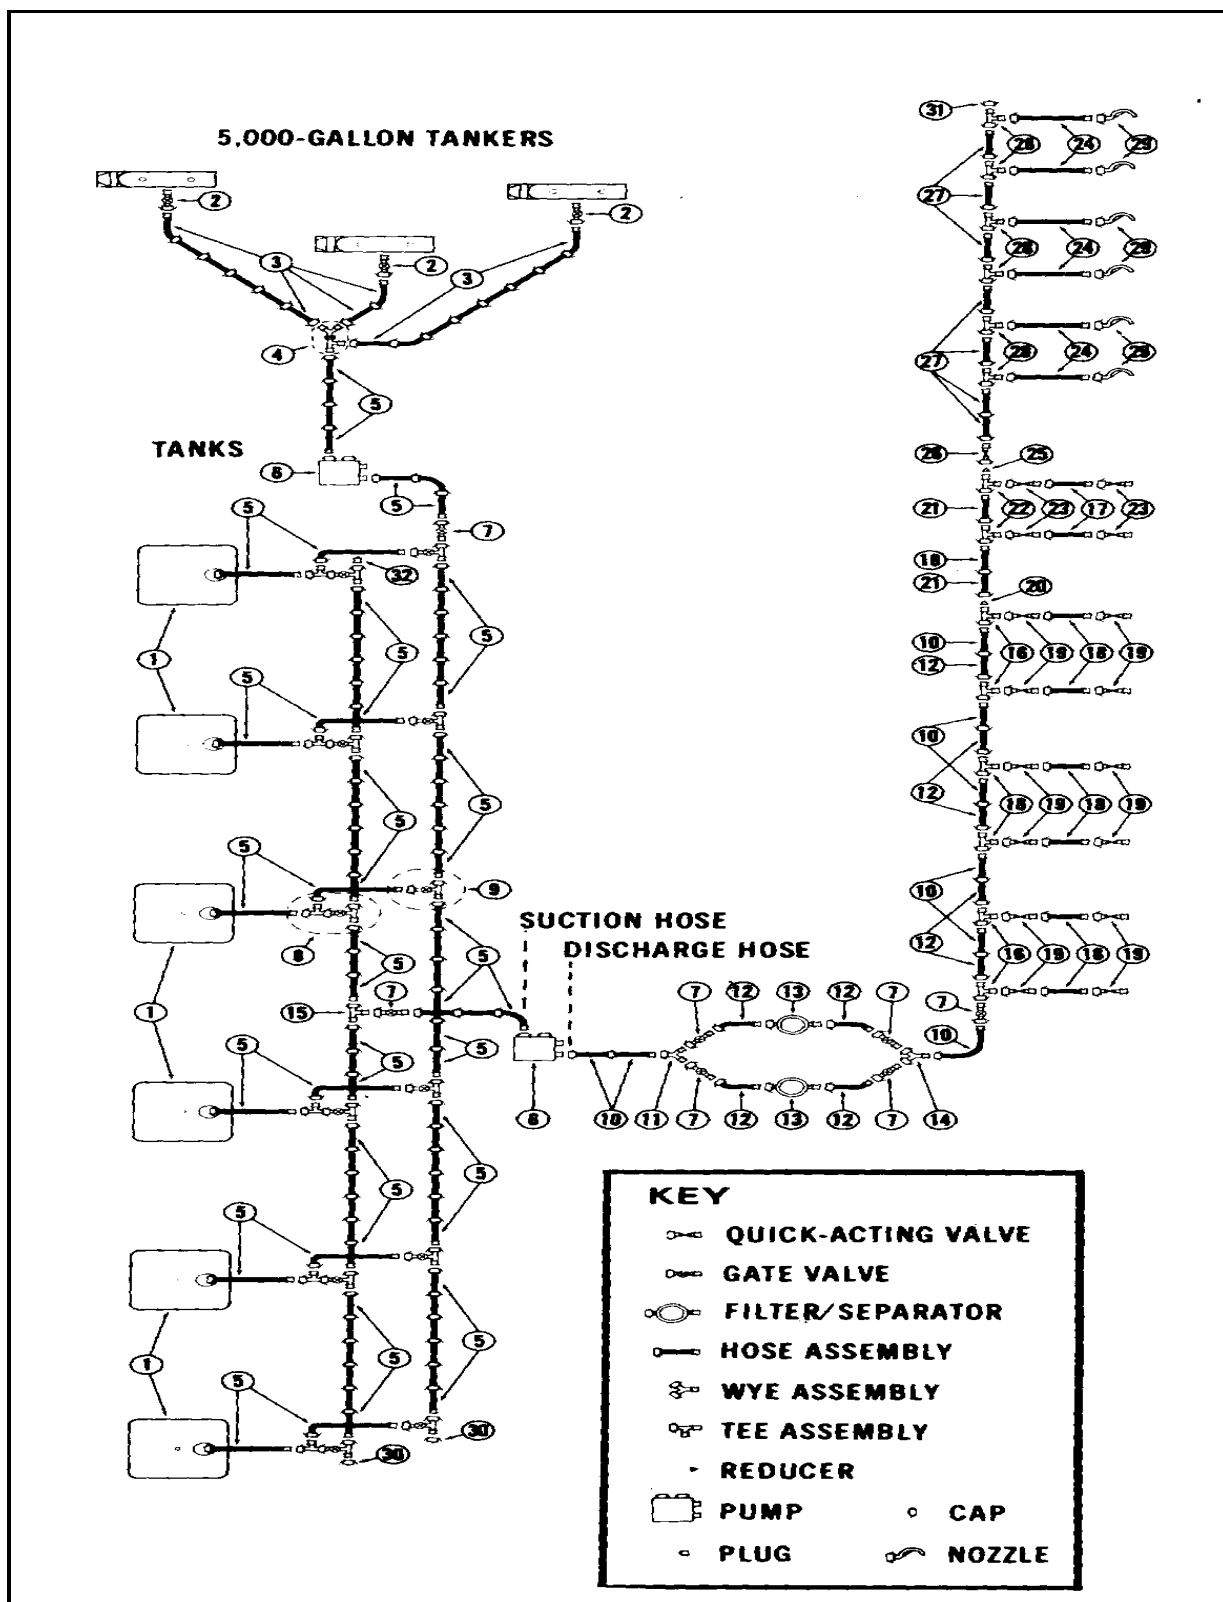

Figure 23-1. Typical layout of the FSSP
The FSSP is the Army's primary means for the receipt and storage of bulk petroleum and for its issue to combat forces under tactical conditions. The FSSP is not issued as a complete system. The major components are issued as separate items of equipment to add to the flexibility of the system. The number of major components depends on the size and configuration of the system. An FSSP normally consists of two 350-GPM pumping assemblies, two 350-GPM filter/separators, six 10,000-gallon collapsible tanks (An augmented FSSP increases total storage capacity by using larger collapsible tanks, six bottom loading points, two 500-gallon collapsible drum filling points, and six refueling points. These components of the fuel system are connected by about 2,400 feet of hose and 11 types of fittings. When an FSSP is requisitioned, you will only receive the hoses and fittings to connect the above components. Figure 23-1, page 23-2, shows a typical layout. Table 23-1, page 23-3, lists the components.
The FSSP uses specific pumping assemblies, filter/separators, and collapsible tanks. Each is described in the following paragraphs. See Figure 23-1, page 23-2, for these components.
- Suction and discharge hoses. The two types of hose assemblies used in the FSSP are suction hose assemblies and discharge hose assemblies. Each hose assembly has a male coupling (with a dust cap) on one end and a female coupling (with a dust plug) on the other end. Figure 23-1, page 23-2, shows where the lengths of hoses are used. The dust caps and plugs must be used when the hose sections are not connected to the system.